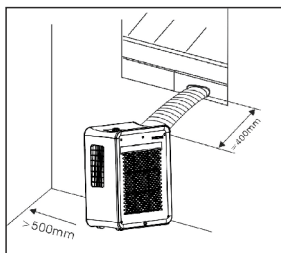

Fig. 1
- 1) Ensure at least 50 cm of free space on the filtering side of the unit (Fig. 1).